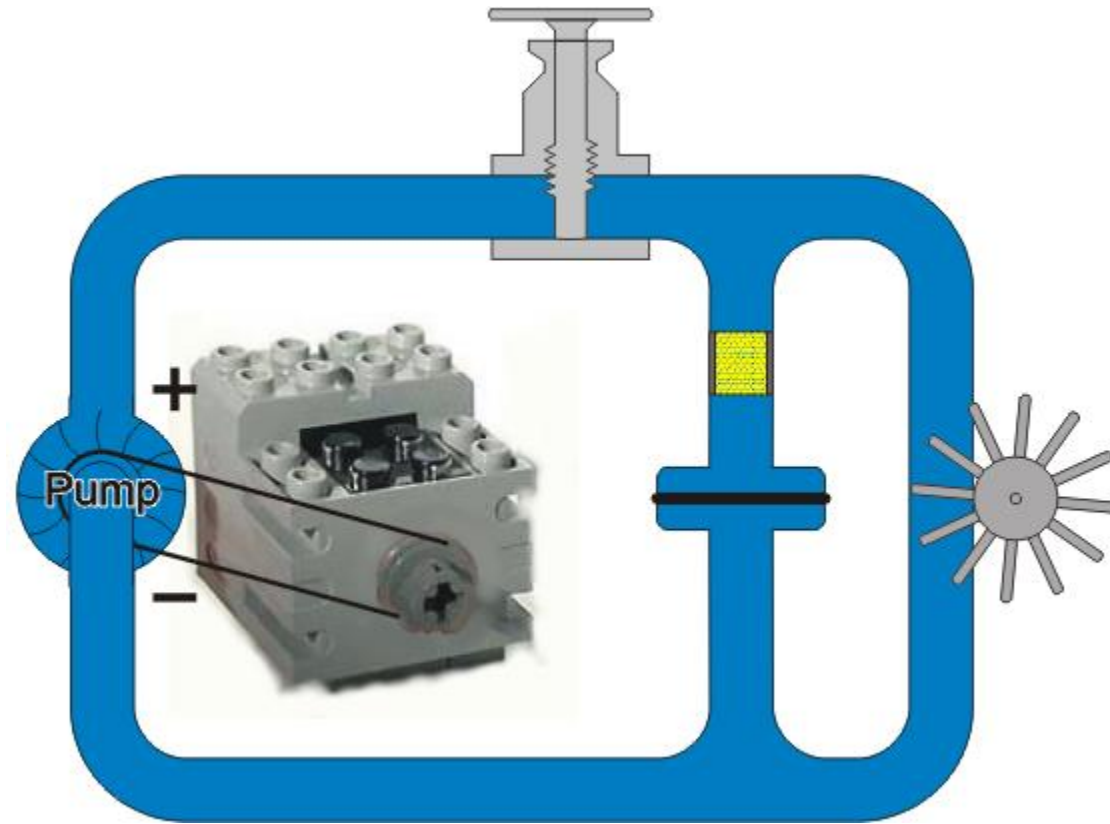

Fig 27: A sand-filter—water-wheel—membrane cycle.
- **Fig.27** puts a sand filter into the loop. This sand filter would ultimately absorb the energy being stored in the stretch of the membrane and the inertia of the moving water wheel until, in time, the system returns to a neutral state with no flowing water.